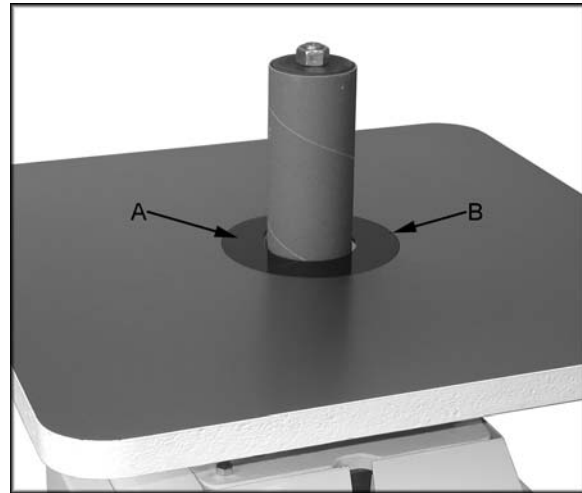

Figure 4
2. Choose the insert (A, Figure 4) that most closely matches the diameter of the sanding drum.
3. Line up the notch in the insert with the spring pin in the table (B, Figure 4), and press in place.